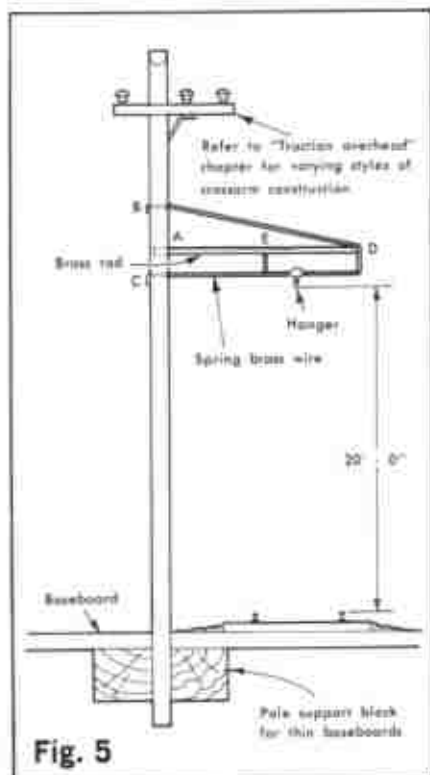

Fig. 5
Construction of bracket and cross-span poles can follow many different methods but we will discuss only a few here. For wood bracket poles, this first method is quite simple and effective and can be used for all gauges. Start by cutting the poles to length following the template provided in this chapter (fig. 3). Next drill a hole a little more than halfway through the pole at point A in fig. 5. This hole should be ⅝" in diameter in O gauge, and ⅝" for S and HO. With a No. 80 bit, drill a .013" hole (suitable for all three gauges) at points B
Using fig. 5 as a guide, shape the spring wire with a needle-nose pliers into a one-piece bracket-arm rod/cross-span wire that will extend on the model from point B around the end of the bracket arm (D) to point C. Solder it to the end of the brass rod at D and cut the rod to